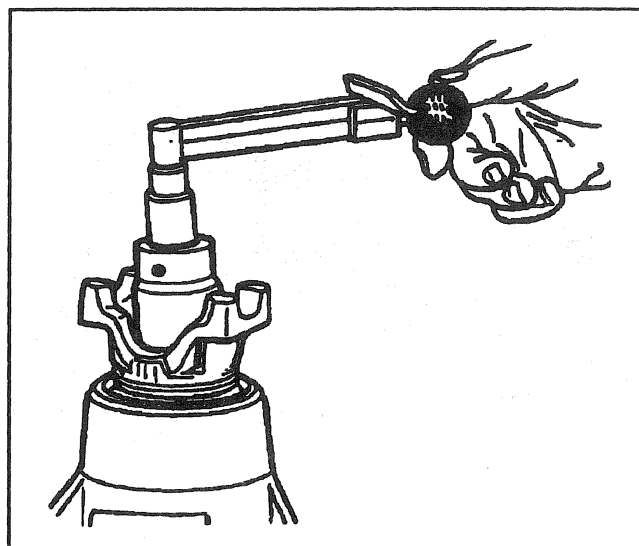

Figure 9—Checking the Pinion Preload
- Drive pinion rotating torque and record (Figure 9).